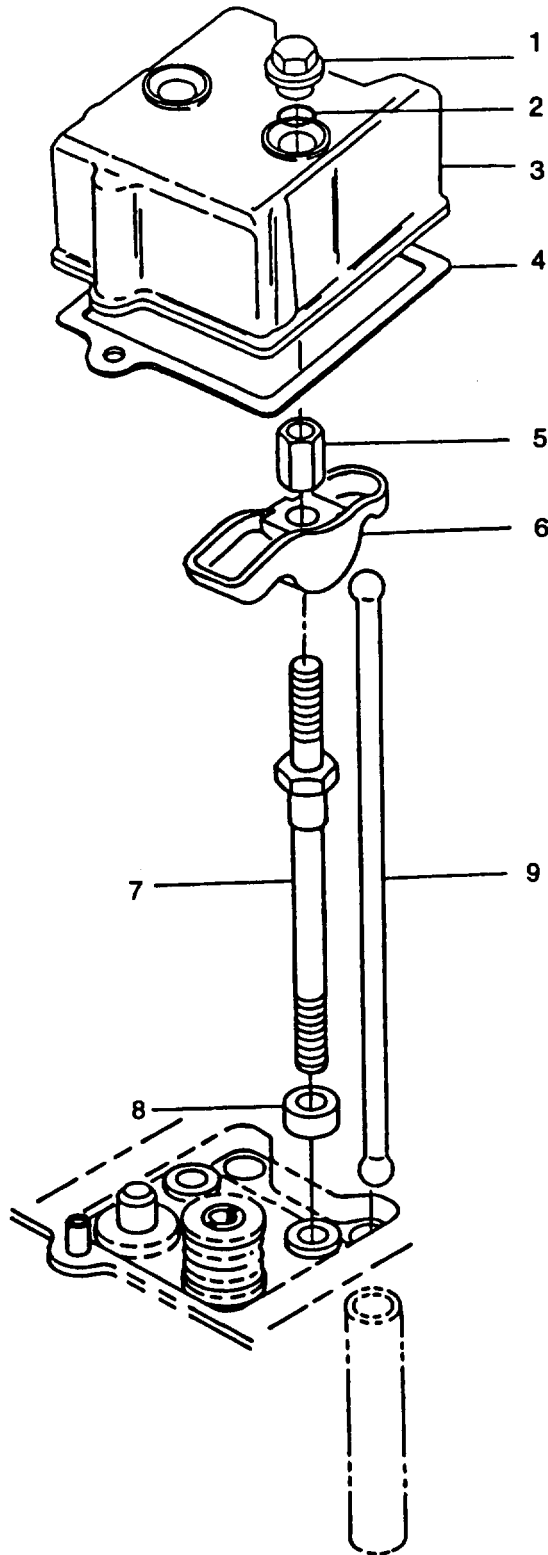

FIGURE 3-27. Cylinder Cover and Rocker Lever
3-25.1. Removal. Remove two nuts (1, FIGURE 3-27) and preformed packings (2) securing each valve cover (3) to cylinder head; remove cover (3) and gasket (4). Discard gasket (4) and preformed packings (2).
- a. Remove any traces of old gasket from cylinder head and valve covers (3, FIGURE 3-27) mating surfaces.
- c. Position each valve cover (3) with new gasket (4) on cylinder head and secure with two nuts (1) and new preformed packings (2). Tighten nuts (1) to 78 in-lbs (8.8 Nm).
- b. Remove nut (5, FIGURE 3-27) securing rocker lever (6) to cylinder head bolt (7); remove rocker lever.
- c. Remove pushrod (9).
- e. Do not remove cylinder head bolt (7) and spacer (8) unless damaged or cylinder head is being removed.
- a. Check pushrod (9, FIGURE 3-27) as follows:
- (1) Lay pushrod on a surface plate.
- h. Remove two bolts (3), two bolts (4), and four washers (5). Refer to FIGURE 3-27 and remove four bolts (7) and spacers (8).